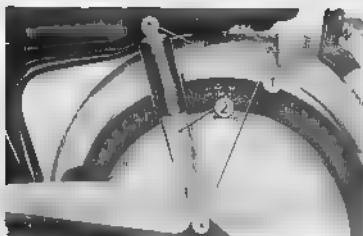

Fig. 4.77 Removing rear cushion
- ① Remove the rear cushion assembly ② (Fig. 4.77)